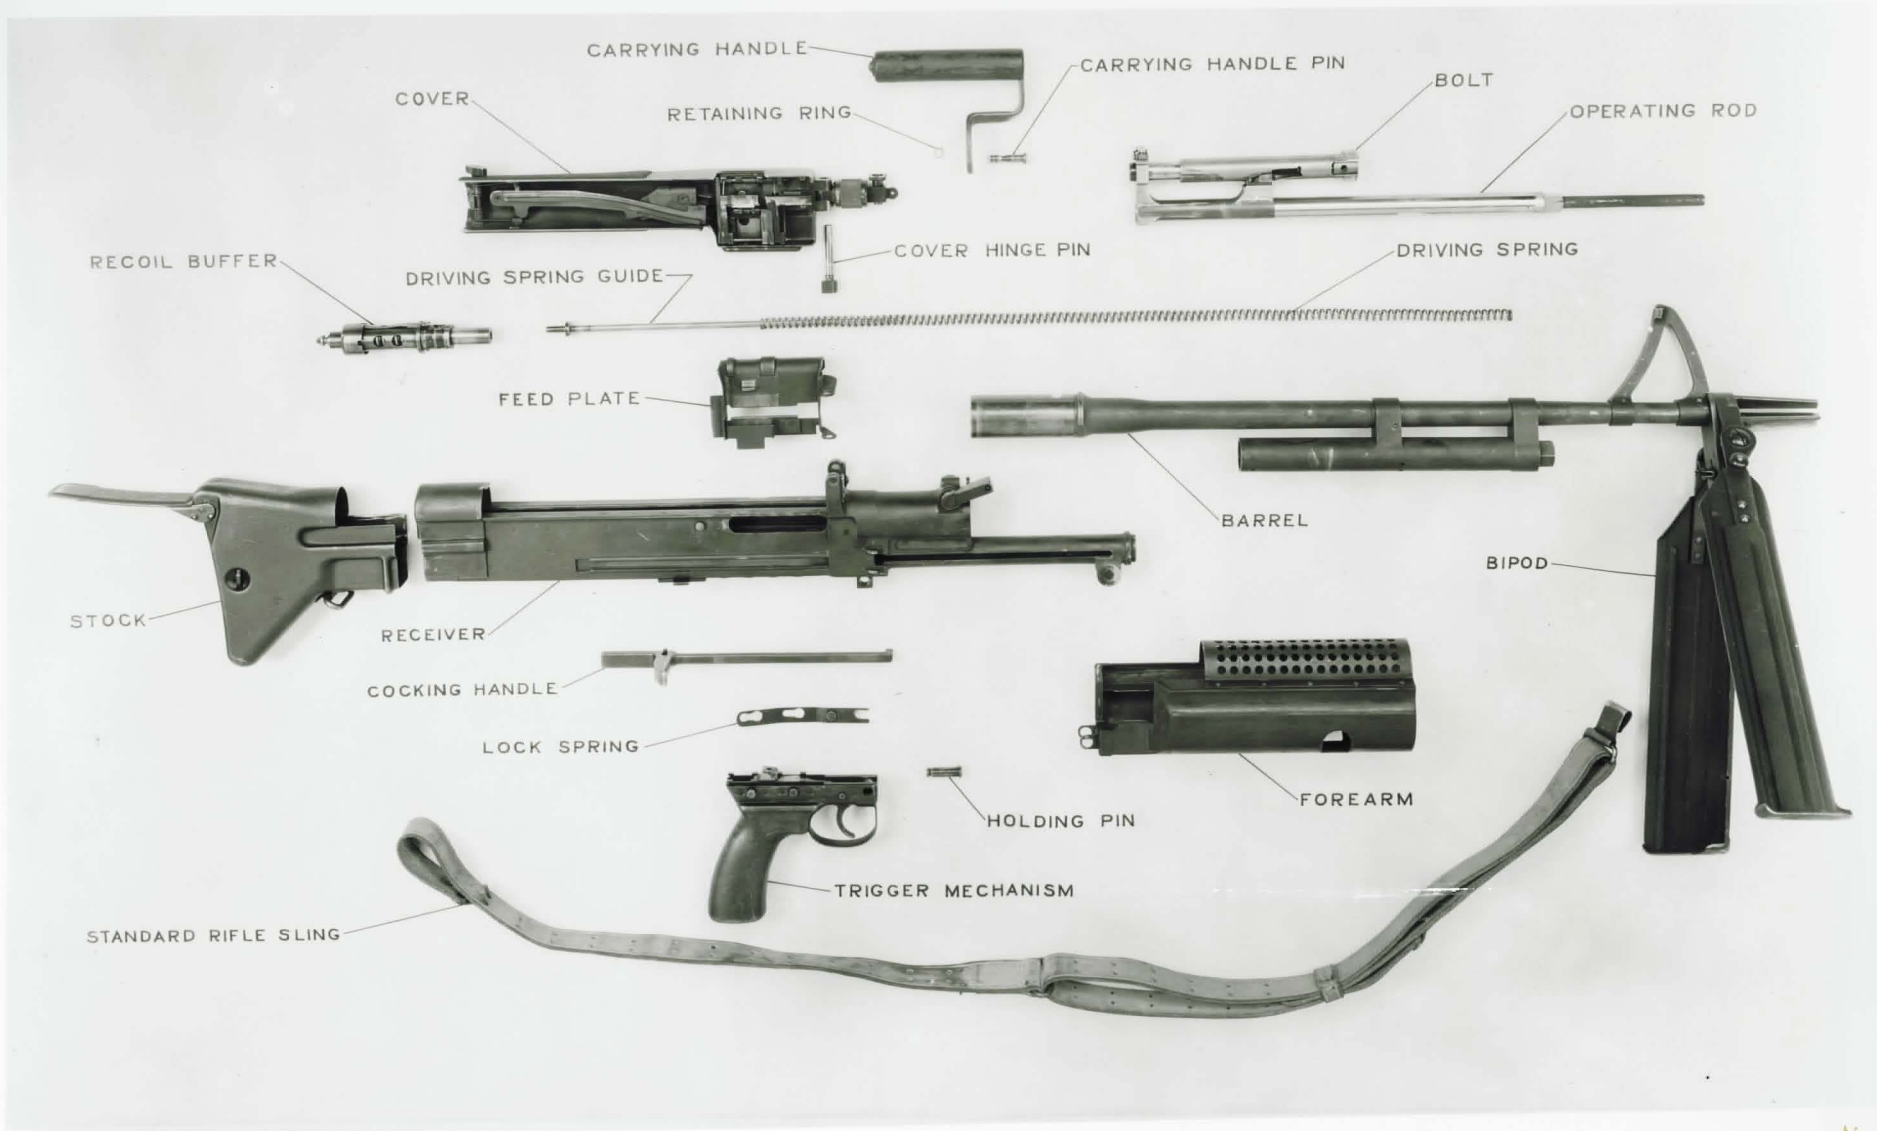

FIG. 4 - DISASSEMBLED VIEW
- b. The disassemblies and assemblies have been divided into four (4) main classes.
- c. The construction of this Gun is such that all parts used in field stripping may be disassembled and assembled without the use of tools. See Fig. 4, Page 10.